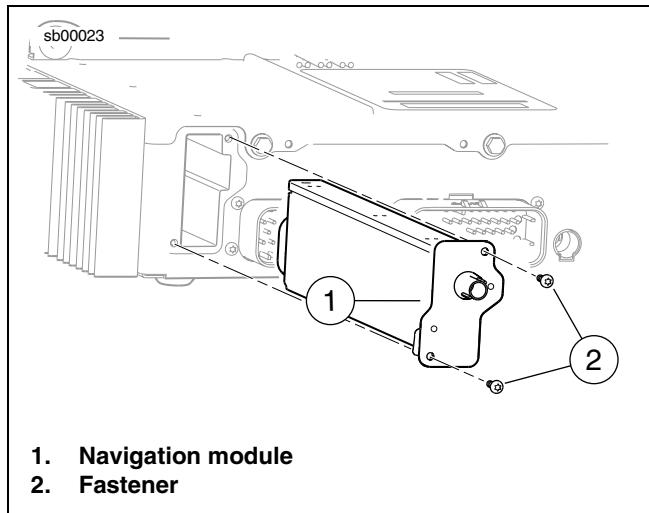

Figure 4. Navigation Module
1. See Figure 4. Remove the antenna connector [193B] on the back of the navigation module.
2. Remove the two fasteners (2).
3. Pull the navigation module (1) out of the receiver.